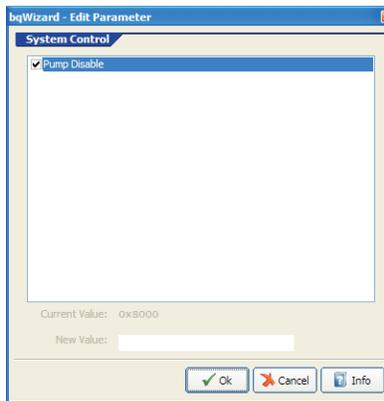

Figure 28. Enabling PowerPump™ Cell Balancing
2. Double-click the System Control line with the mouse. A secondary window opens. (Figure 28)
3. Un-check the "Pump Disable" box and click OK. (Figure 28)